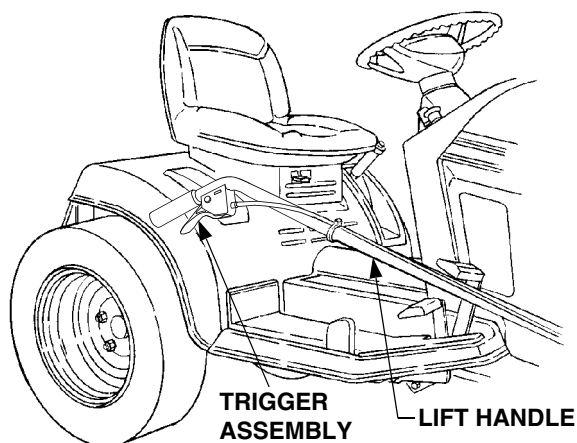

Figure 28
2. Grasp the lift handle (C) and squeeze the latch release trigger to lower the snow thrower to the ground (Refer to Figure 28).
2. The lift handle is used to raise and lower the snow thrower. To raise the snow thrower, pull back and down on the lift handle until the lift index rod fully engages the latch slot of the lift latch bracket. To lower the snow thrower, push slightly downward on the lift handle, then pull the trigger. With the trigger pulled, lower the snow thrower slowly until it contacts the ground. Refer to Figure 28.